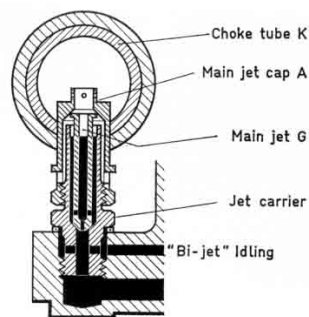

Fig. 24 Assembly No. 8
With an independant idling system the fuel for idling is taken before it passes through the main jet (see fig. 24). In this case the idling system is completely independent and under normal operation always affects the formation of the mixture, therefore very careful adjustment of idling setting is required. This is known as the "bi-jet" system.
b) Jet Assembly No. 8 (fig. 24)